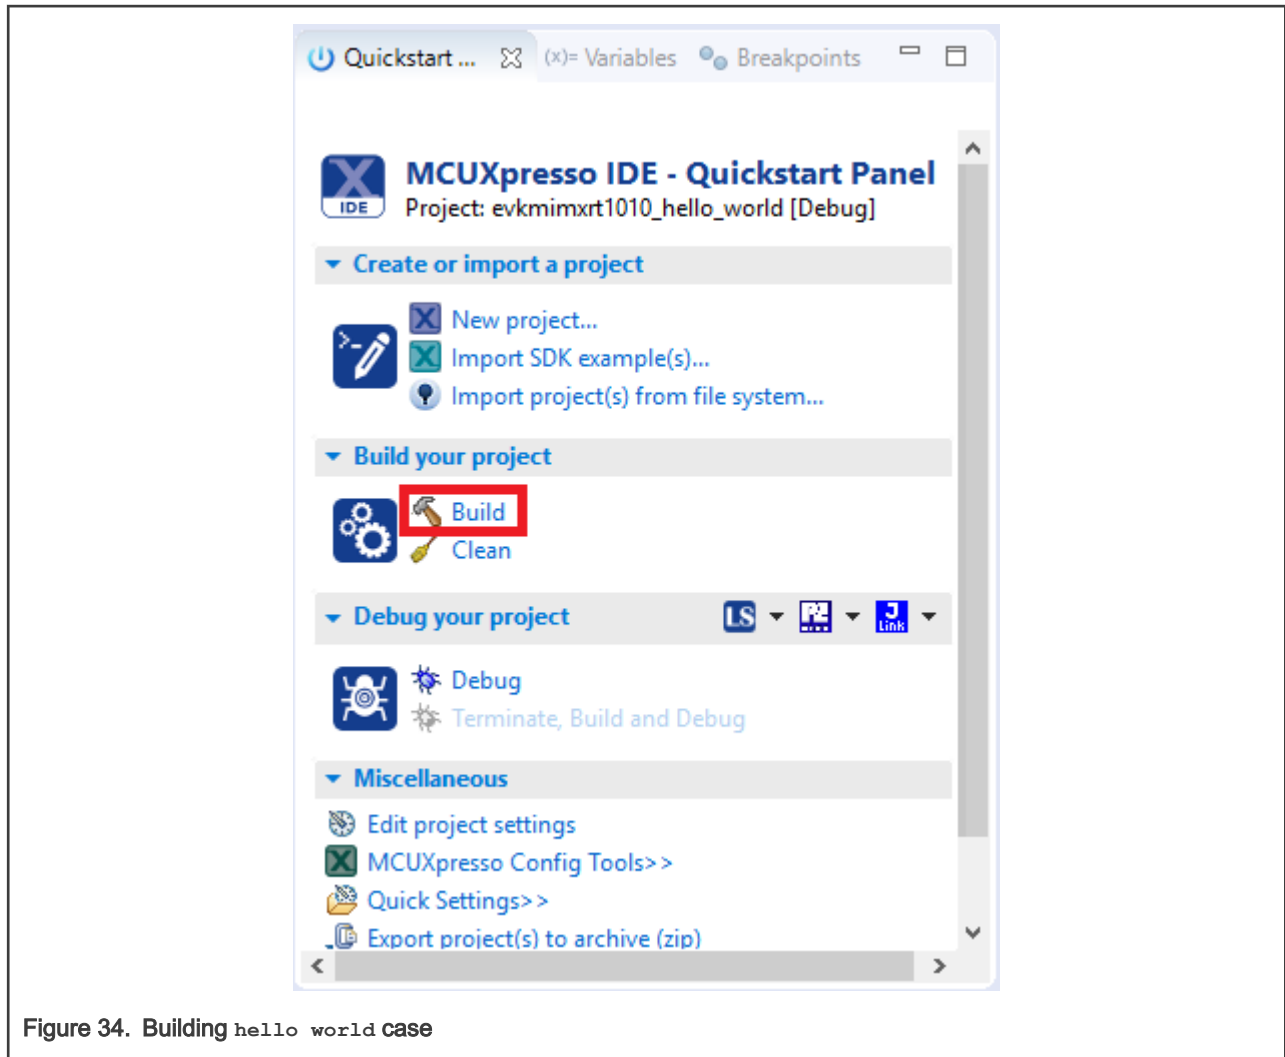

Figure 34. Building hello world case
- On the **Quickstart** panel, click **build evkmimxrt1015_demo_apps_hello_world [Debug]** , as shown in Figure 34.